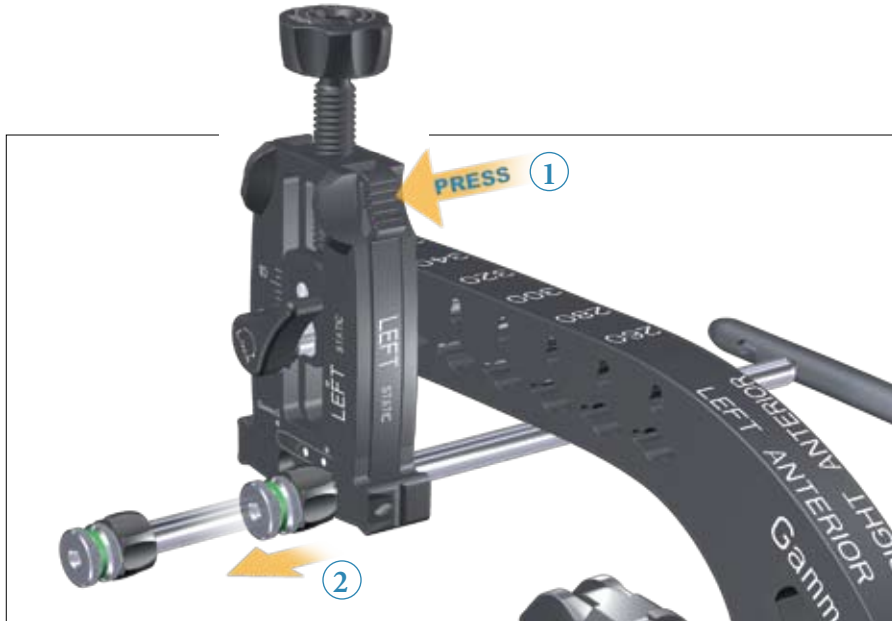

Fig.17
After the calibration steps have been completed, remove the Sleeve Assembly (Fig.17 ②) by pressing the Sleeve Fixation Button (Fig.18 ①) of the Adjusting Device.